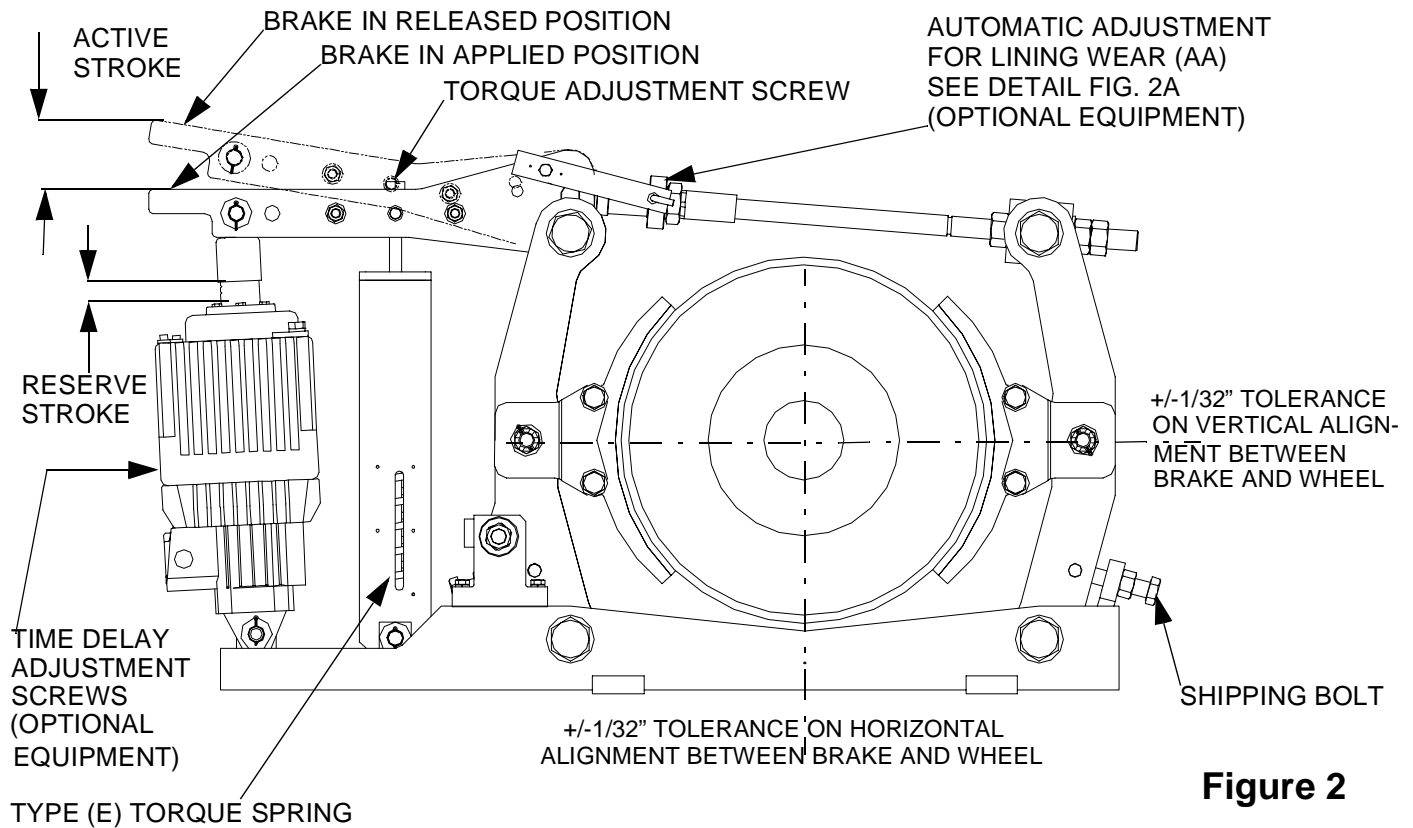

Figure 2
4.2: The actuator piston rod extends when power is applied, the brake-shoe pressure removed and running shoe clearance established. (See Fig. 2).
4.13.(a): As the brake releases, the shoe nearest to the actuator has been biased to open first. This is done during manufacture, by inclining the actuator away from the nearest shoe, (See Fig. 2)
4.13.(b): Clearance provided to the nearest shoe is restricted by the (AE) mechanism - located on the base - which transfers the remaining clearance to the other shoe.(See Fig. 2)
5.2: Remove and discard any shipping bolts, See Fig. 2 for location, or wedges used to secure the brake against vibration during transportation.
5.5: After installing the brake and wheel, make preliminary adjustments to apply sufficient shoe pressure to raise the actuator piston rod 1/2" above its fully retracted position, (Fig. 2).
5.11: The brake assembly must always be square and aligned to the brake wheel within a maximum of +/- 1/32 inch in all three axes, (horizontal, vertical and longitudinal). (Fig. 2)